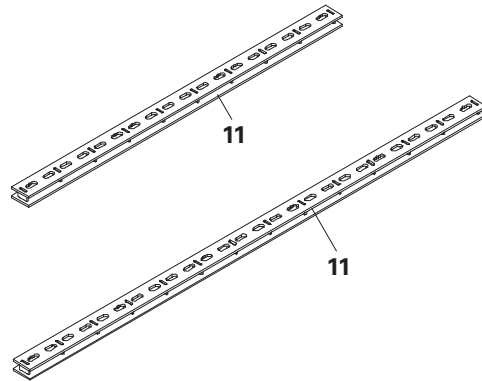

Fig. A4.01
The filler element (10) is used for longitudinal compensation. VKZ 147 or VKZ 211 (11) couplings are used for this purpose. (Fig. A4.01)